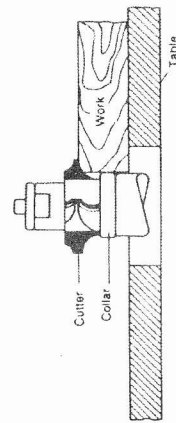

Fig. 14
1. When using the collar below the cutter, figure 14, the progress of the cut can be observed at all times. A disadvantage of this method is any accidental lifting of the work will gouge the wood and ruin the workpiece.